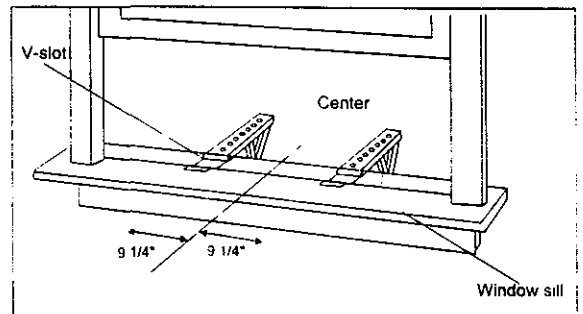
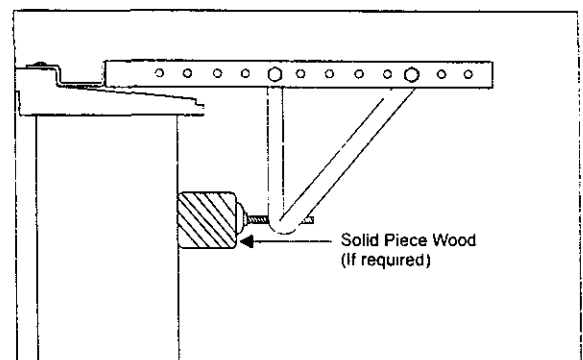

Fig 14
Fig 15
Two bolts per bracket. Secure with the (2) **1/4"** lock washers and (2) **1/4"** nuts. **DO NOT** immediately tighten these bolts as it may be necessary to adjust the depth of the **bracket assembly**, depending on the depth of your window sill. See (Fig 14). Install the two **leveling screws** into the 90 support brackets. Test the bracket assembly in the window before cabinet installation. If the leveling screws are distanced too far away from the wall to provide stability, it may be necessary for you to shim this area with a solid piece of wood. See (Fig 15)
B. Measure the inside window sill width and find the center as shown in (Fig 14) Measure 9 1/4" from the center line on each side and mark these points. Align the **V-slot** in each bracket on these marks and mount the brackets to the sill using **3/4" screws** provided. Brackets should be perpendicular to the inside window sill. See (Fig 14)
Use a solid piece of wood to provide stability. This will be required when sills are extra deep. See (Fig. 15).